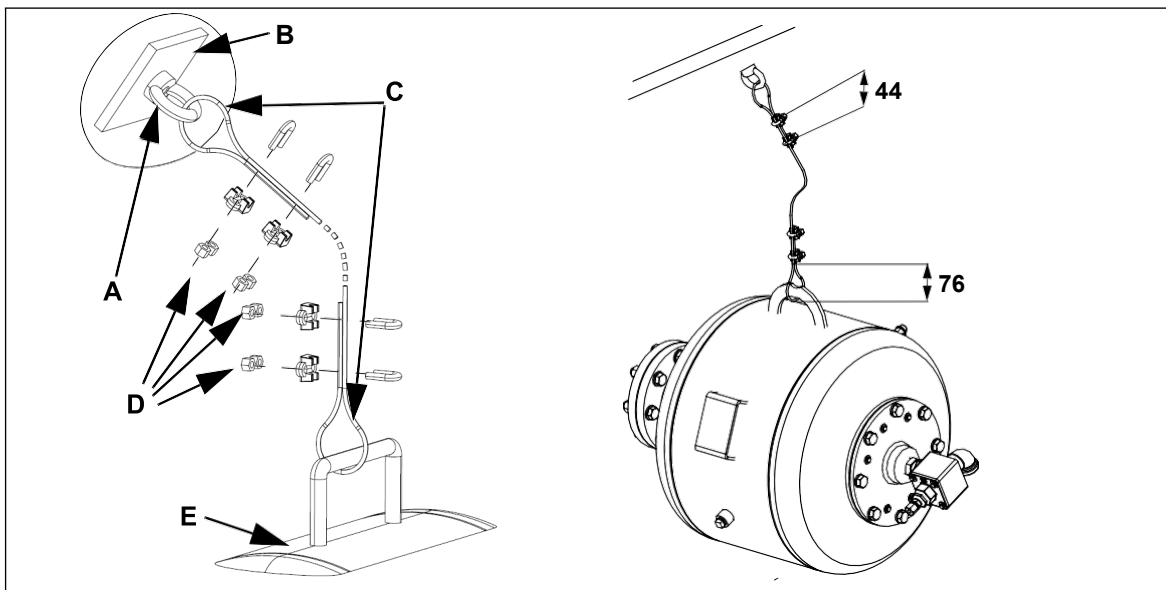

Fig. 3:
1. Fix the securing ring supplied (A, Fig. 3) to the vessel wall (B, Fig. 3) with a 6 mm fillet weld.